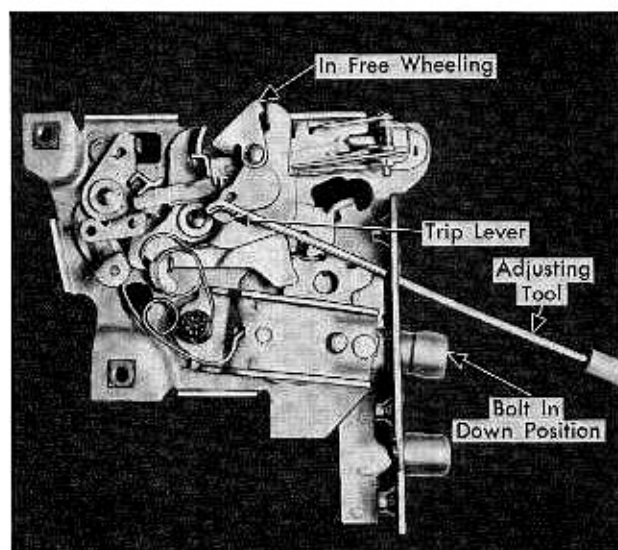

Fig. 3-29 Adjusting Rear Door Lock Out of Free Wheeling
4. To adjust lock from free-wheeling to normal, pull lever rearward. Fig. 3-29.
(30) Front Door Ventilator Assembly Adjustments